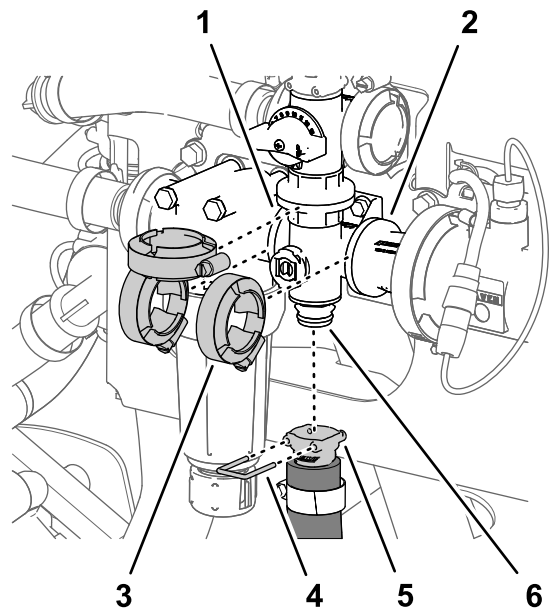
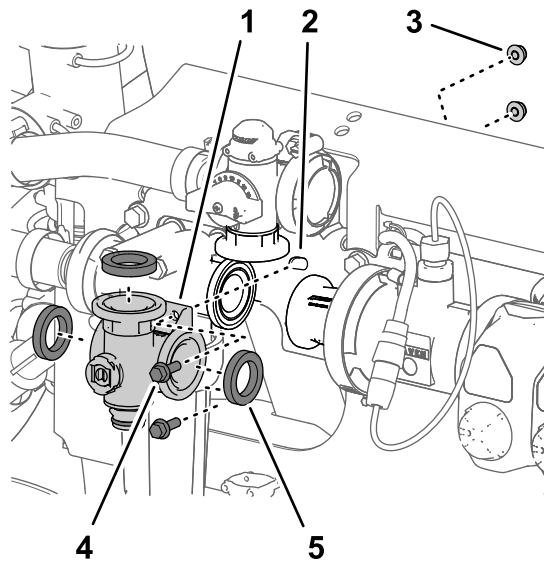

Figure 121
Figure 120
1. Align the flange of the agitation-valve manifold and 3 gaskets with the flanges of the agitation-bypass valve, pressure filter head, and coupling adapter (Figure 120 and Figure 121).
2. Loosely secure the agitation-valve manifold to the agitation-bypass valve, pressure filter head, and coupling adapter (Figure 121) with the 3 flange clamps that you removed in Removing the Agitation-Manifold Valve (page 79).
5. Tighten the 3 flange clamps by hand (Figure 121).
6. Assemble the quick-connect coupler of the agitation hose onto the quick-connect fitting of the agitation-valve manifold with the quick-connect pin (Figure 121).